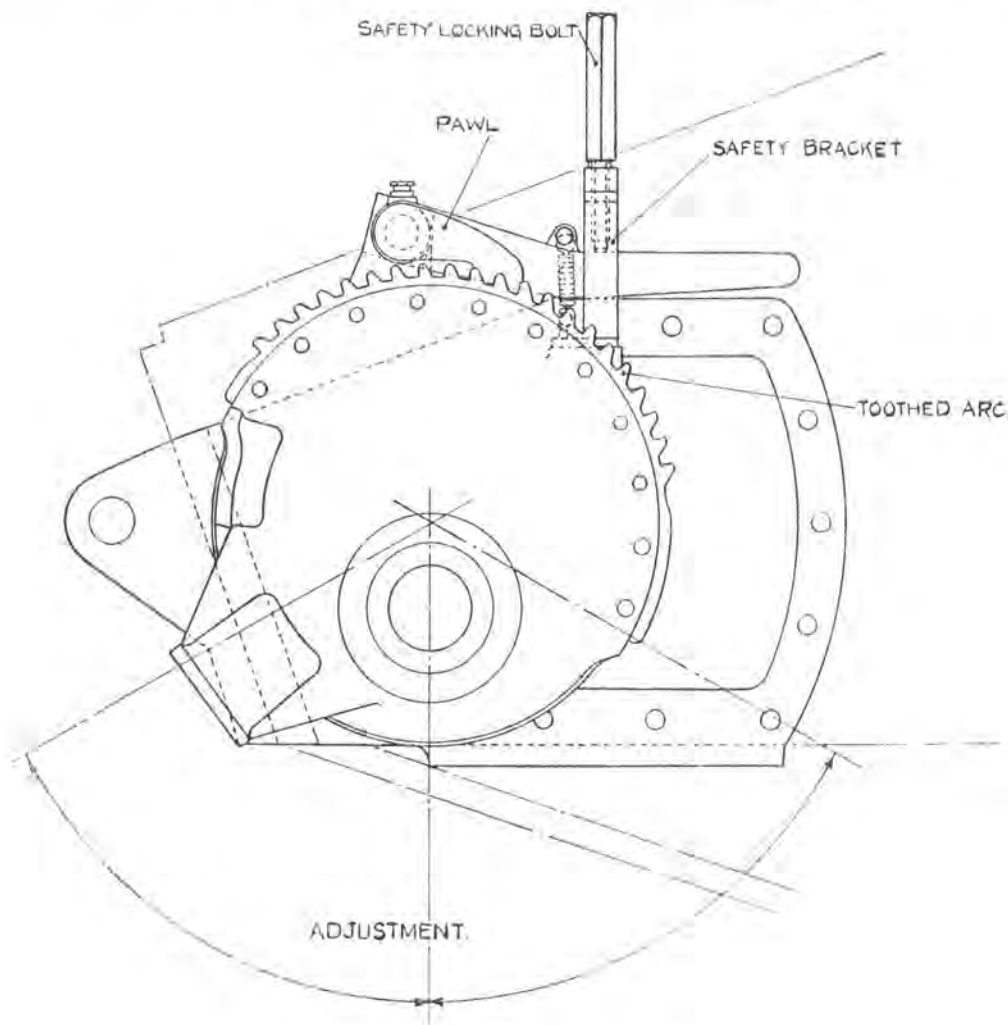

Fig. 15. **Track Adjuster.**
(7) TRACK ADJUSTER. (*Fig. 15*).